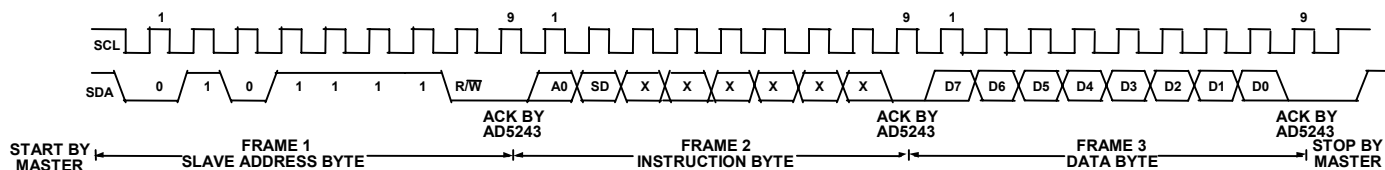
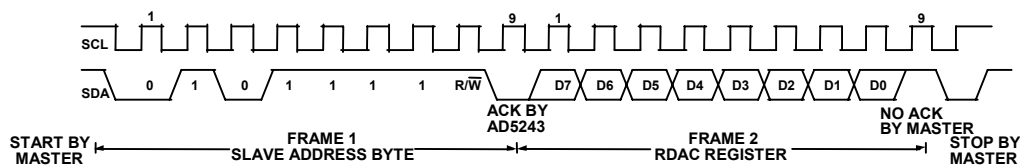
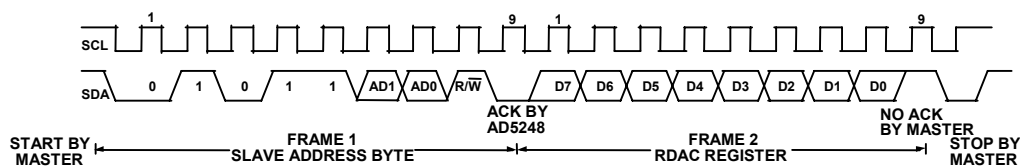

Figure 13. Writing to the RDAC Register – AD5243
Figure 15. Reading Data from a Previously Selected RDAC Register in Write Mode – AD5243
Figure 16 Reading Data from a Previously Selected RDAC Register in Write Mode – AD5248
1. The master initiates data transfer by establishing a START condition, which is when a high-to-low transition on the SDA line occurs while SCL is high (see Figure 13). The following byte is the slave address byte, which consists of the slave address followed by an R/W bit (this bit determines whether data will be read from or written to the slave device). The AD5243 has a fixed slave address byte whereas the AD5248 has two configurable address bits AD0 and AD1 (see Table 5).
3. In the read mode, the data byte follows immediately after the acknowledgment of the slave address byte. Data is transmitted over the serial bus in sequences of nine clock pulses (a slight difference with the write mode, where there are eight data bits followed by an acknowledge bit). Similarly, the transitions on the SDA line must occur during the low period of SCL and remain stable during the high period of SCL (see Figure 15 and Figure 16).
Note that the channel of interest is the one that is previously selected in the Write Mode. In the case where users need to read the RDAC values of both channels, they need to program the first channel in the Write Mode and then change to the Read Mode to read the first channel value. After that, they need to change back to the Write Mode with the second channel selected and read the second channel value in the Read Mode again. It is not necessary for users to issue the Frame 3 data byte in the write mode for subsequent readback operation. Users should refer to Figure 15 for the programming format.
- After all data bits have been read or written, a STOP condition is established by the master. A STOP condition is defined as a low-to-high transition on the SDA line while SCL is high. In write mode, the master will pull the SDA line high during the tenth clock pulse to establish a STOP condition (see Figure 13). In read mode, the master will issue a No Acknowledge for the ninth clock pulse (i.e., the SDA line remains high). The master will then bring the SDA line low before the tenth clock pulse which goes high to establish a STOP condition (see Figure 15 and Figure 16).